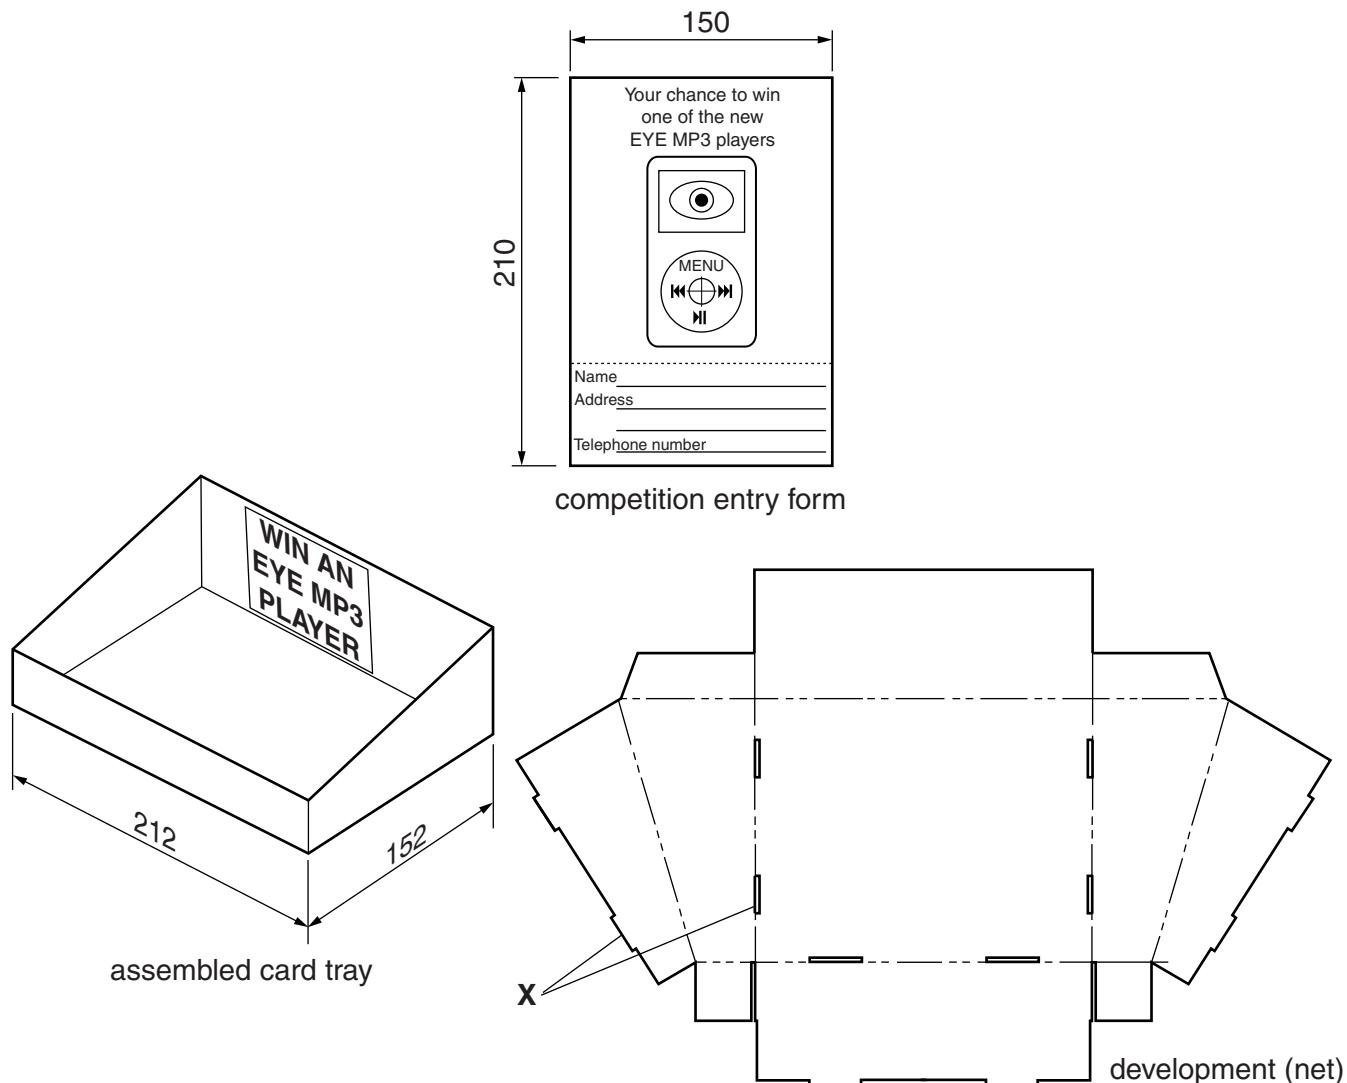

Fig. 4
- 4** Fig. 4 shows a competition entry form and a design for a card tray to hold the forms. Trays full of forms will be located in shops selling the MP3 player.